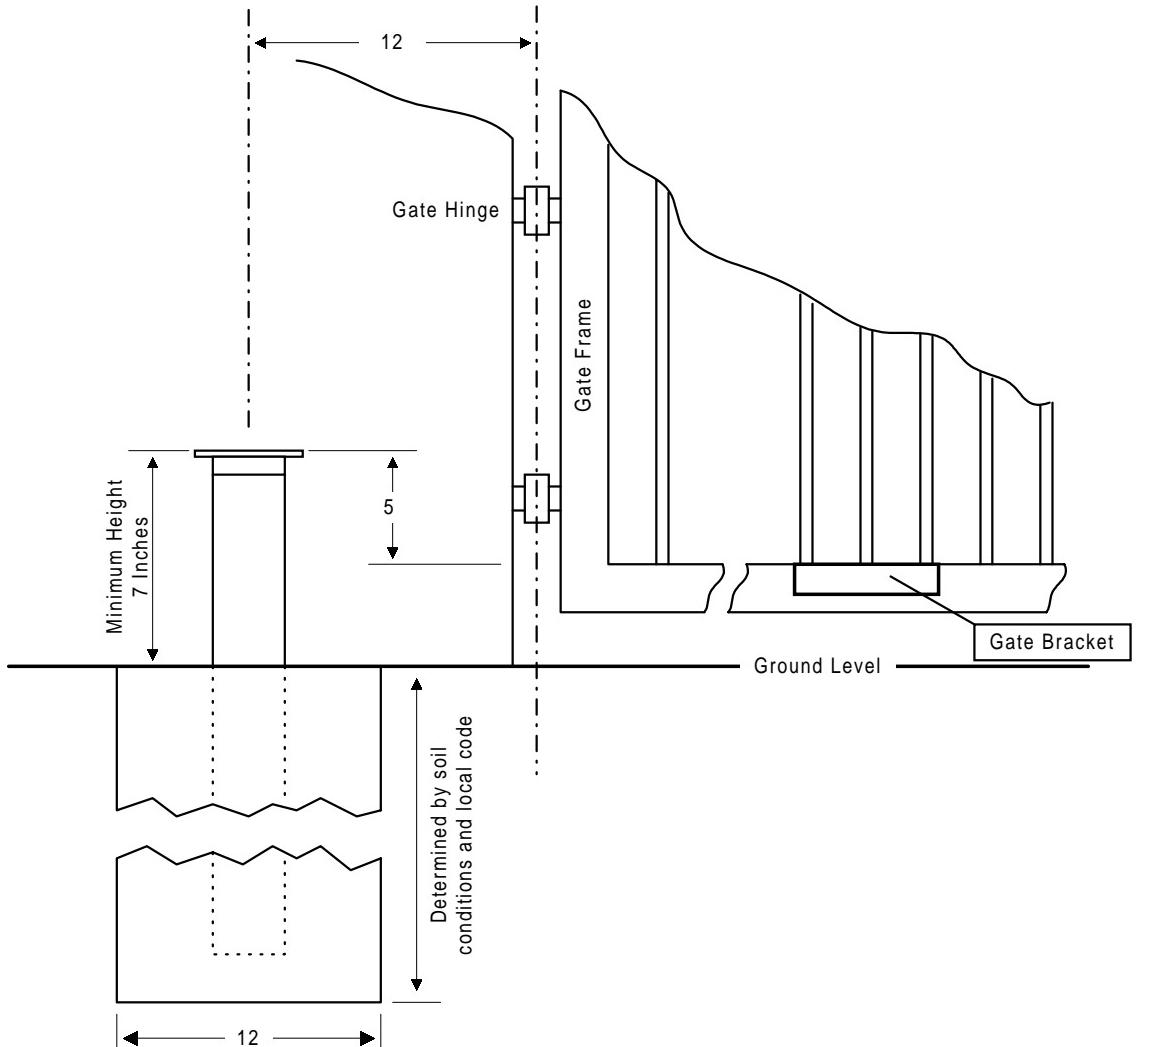
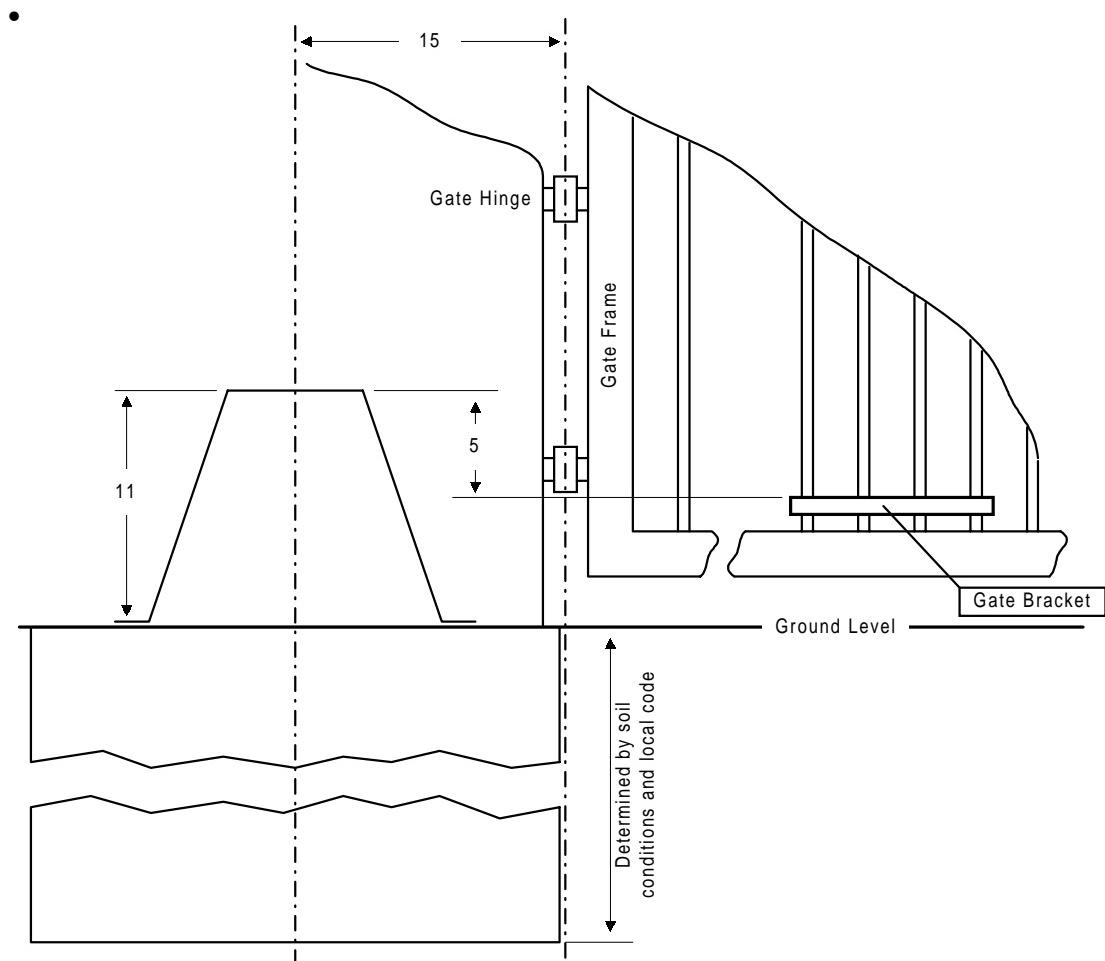
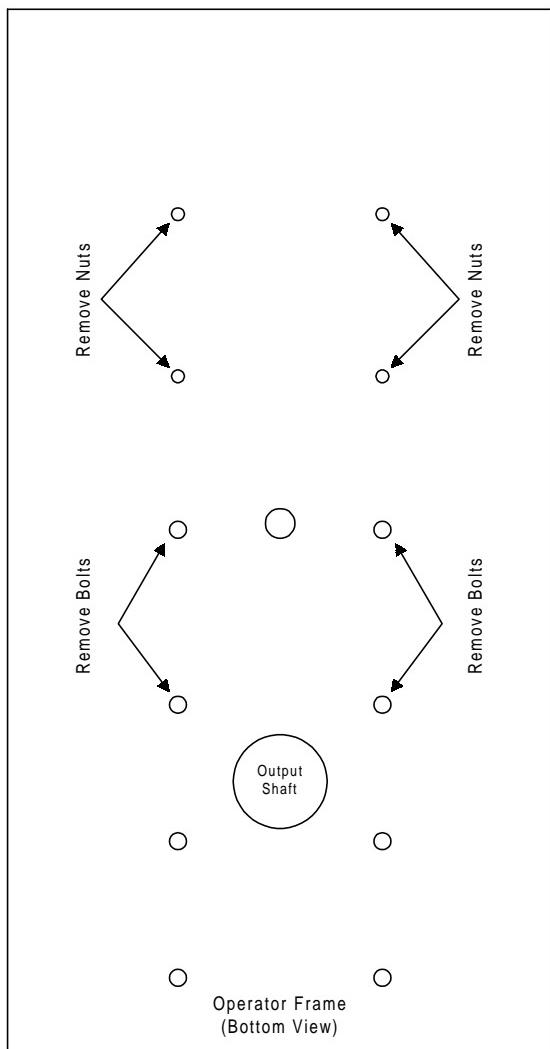

Figure 4
Figure 7
Figure 12
5. Determine the height of the assembly required for your installation. Refer to Figure 4.
- The concrete pad is sized so that there is a minimum of four (4) inches of concrete from the outside edge of the mounting pipes.
- The height requirement is determined by adjusting the mounting plate / pipe assembly so that the top of the mounting plate is 5 inches above the top of the gate rail (Figure 4). This will allow you to mount the gate bracket onto the bottom rail of the gate and will keep the crank and connecting arms level (see page 8, Figure 12).
- The top of the mounting plate must be at least seven (7) inches above the ground. If it is less than this, the gate arms will scrape the ground when the operator starts.
- The concrete pad is sized so that there is a minimum of four (4) inches of concrete around the perimeter of the pad.
- Attach the gate bracket to the gate so that the top of the mounting plate is 5 inches above the top of the gate bracket as shown in Figure 7. This will keep the crank and connecting arms level (see page 8, Figure 12).
- The position of the gate bracket on the gate is directly related to the height of the concrete pad above ground level. If allowed by local codes, the top of the concrete pad can be flush with ground level as shown in Figure 7, which will allow the gate bracket to be lower on the gate.
1. Place the operator on its side and remove 4 bolts and 4 nuts from the bottom frame (Figure 12).